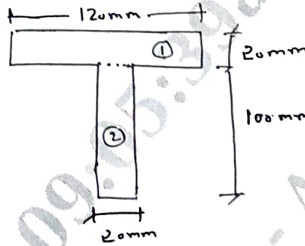

Fig.Q2(b)
- b. Determine the location of the centroid shown in Fig.Q2(b).